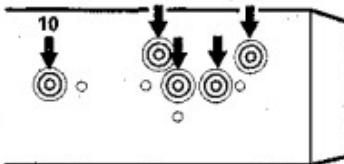
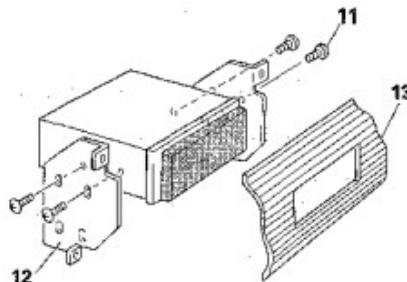

Fig. 15
Fig. 16
2. Fastening the unit to the factory radio mounting bracket (Fig. 15) (Fig. 16)